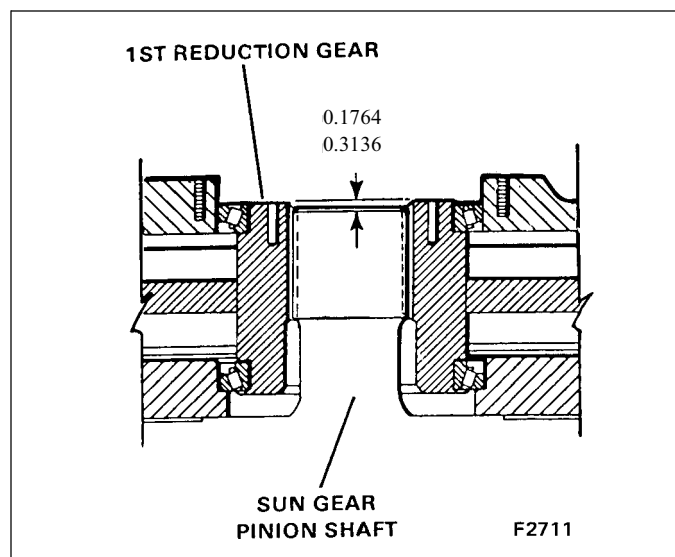

Figure 7-18. Measuring Gap
1. Heat the cones of bearings (25 and 32) and install them on first reduction gear (28).
2. Heat the cones of bearings (10 and 30) and install them on input pinion shaft (29).
3. Install the cups of bearings (30 and 32) in housing (31). Be sure the cups are tight against shoulders.
4. Seal parting surface of the second reduction ring gear and housing (31) as follows:
- B. Place O-ring (35) in the groove in the top of the second reduction ring gear.
5. Install rod bolts (33) into the second reduction ring gear.
6. Lift housing (31) and lower it onto the second reduction ring gear using rod bolts (33) for alignment purposes.
7. Lift first reduction gear (28) and install it on the sun gear pinion shaft with the tapped holes in gear (28) facing up. Gear (28) weighs approximately 800 lbs. (362.9 kg).
8. Measure the distance from the top of the hub of gear (28) to the top of the sun gear pinion shaft, it should be between 0.1764 and 0.3136 (4.48 - 7.97 mm) (see Figure 7-18).
6. With the transmission mounted on the crawler frame, check for clearance shown on Figure 7-18. This ensures that internal components are not thrust together due to resistance between the crawler drive shaft and the splined transmission carrier.